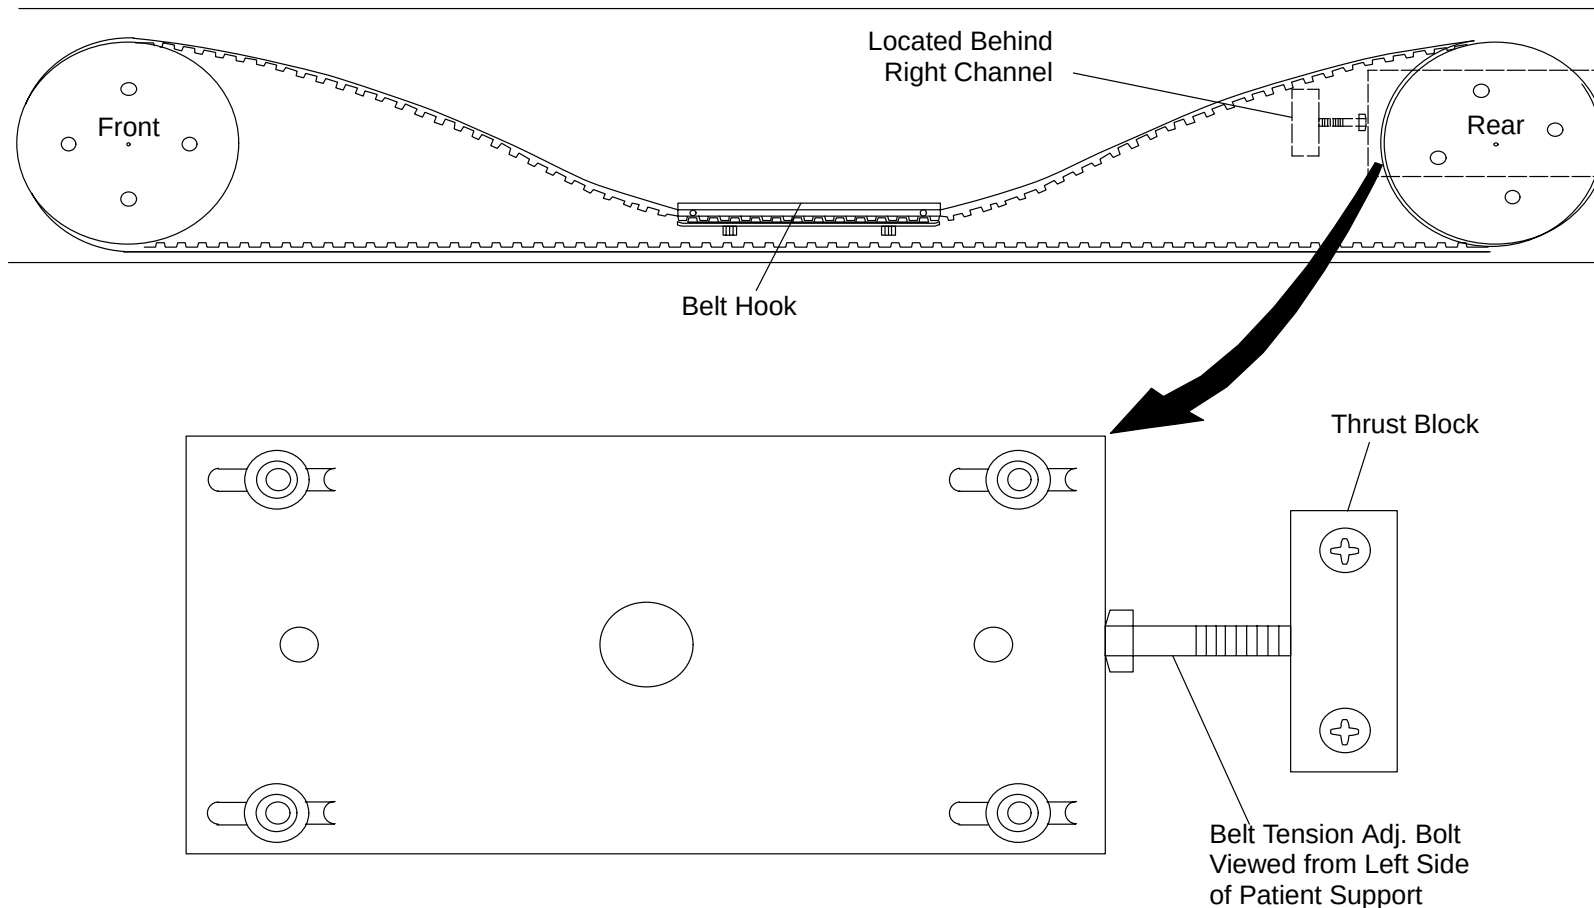

FIGURE 201 BELT TENSION ADJUST
9. Loosen the four front Pulley Mounting Plate Screws. Loosen Belt tension by screwing the Horizontal Drive Belt Adjusting Bolt into the Thrust Block until the Belt Hook Assembly rests on the lower Belt surface. See Figure 201.